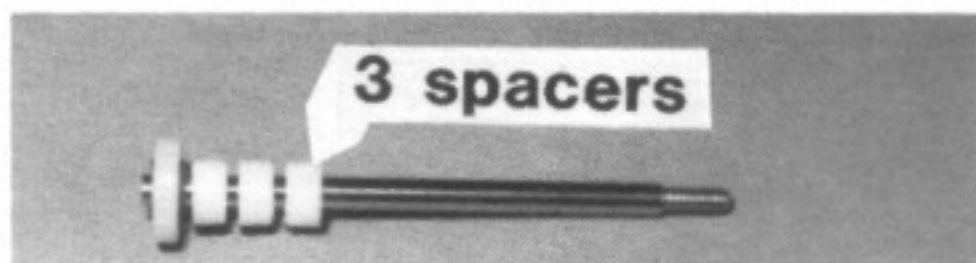

Fig. 119
□ **Fig. 119** Slip on the #6464 piston and then another "E" clip. Make sure the "E" clips are fully seated. Take 3 of the plastic spacers, as shown, and slip them onto the shaft from the threaded end. Push the spacers all the way up to the piston. This will add a "downstop" to your rear shocks which will prevent the wheels from dropping down too far and possibly breaking a dogbone. Add the stop to the REAR SHOCKS ONLY.